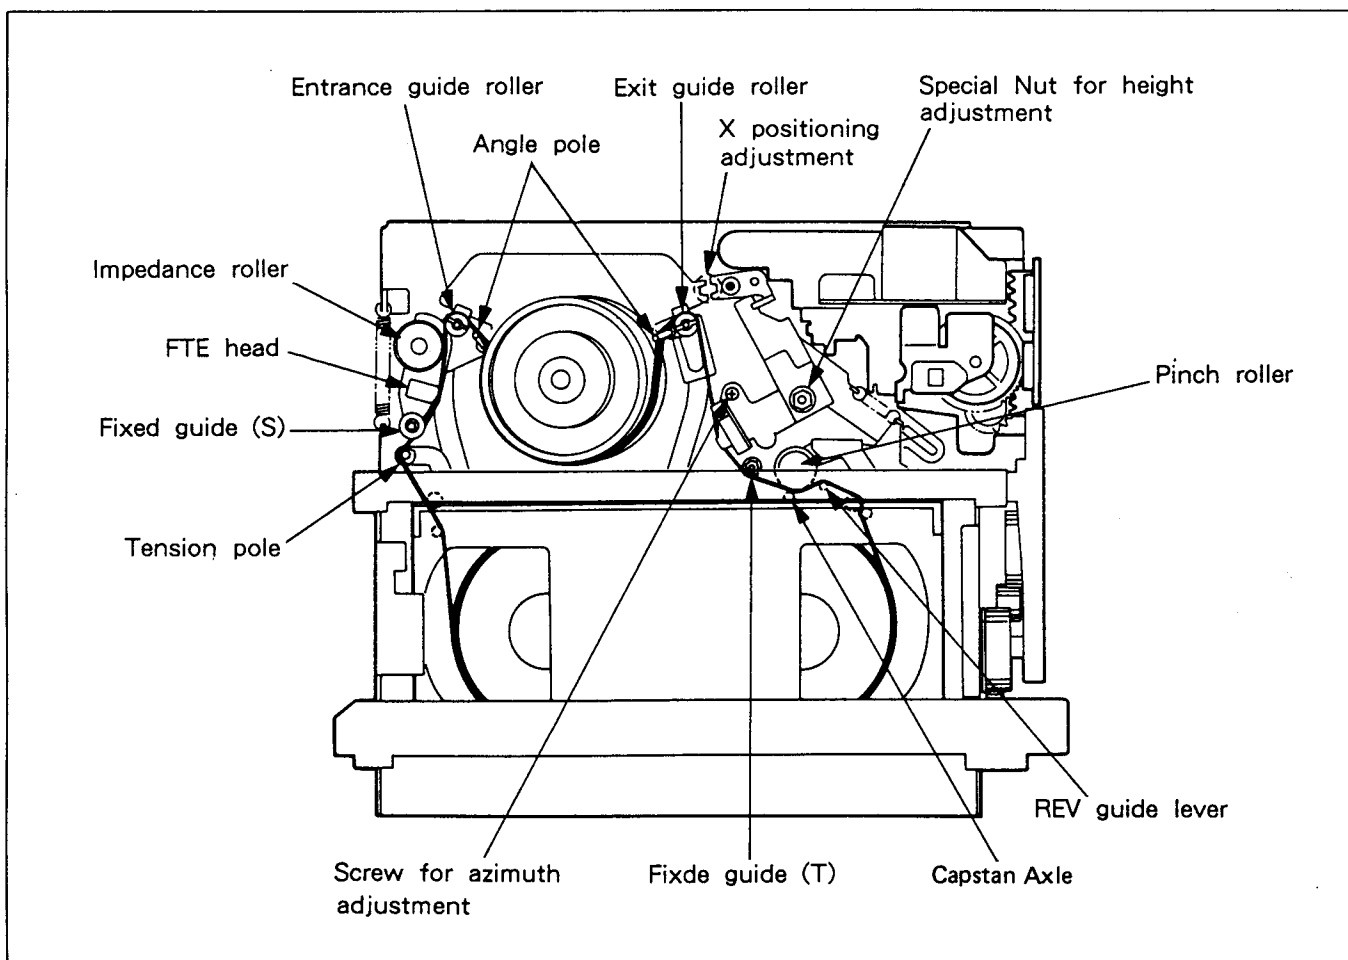

Fig. 5-4-1. Preparation for Adjustment
The tape path mechanism is precisely adjusted at the factory. Normally no readjustment is required, but checking and/or adjustment is necessary when parts of the tape path mechanism among those shown in the figure below (See Fig. 5-4-1.) have been removed or replaced after a long period of use. This operation consists of adjusting the various guides so that the tape drawn out from the supply reel runs smoothly along the DRUM (CYLINDER) lead surface. A way of grasping the tape path condition by electronic means is monitoring the video head output envelope waveform with an oscilloscope. However, the fact that visual observation is essential in order to know whether the tape is running through the various guides in a smooth and natural way should be kept in mind when checking and adjusting.
- (1) Clean the tape transport surfaces (See Fig. 5-4-1.).
- (2) Connect the oscilloscope. Connect the channel 1 probe to the envelope waveform test point, and the channel 2 probe to the SW25 (RF SW P) test point. During adjustment, apply a trigger to the L side of the SW25 (RF SW P) in order to monitor the waveform output from channel 1 of the video head.